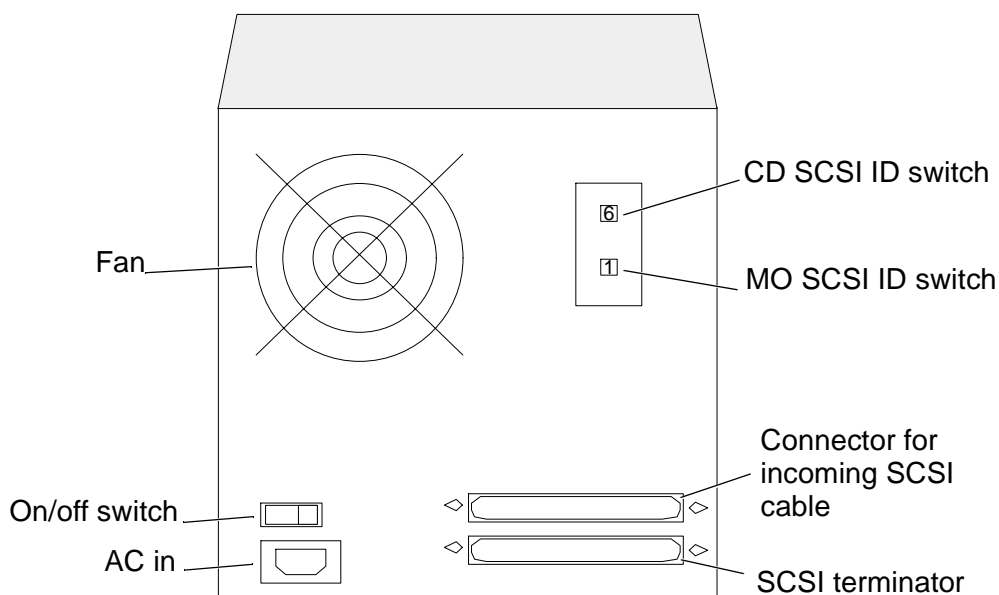

Fig. 4 CD/MO unit, back view
1. Disconnect the power supply cable (AC in) and SCSI cable from the back of the unit (Fig. 4).
2. Unplug the SCSI terminator from the back of the unit (Fig. 4).